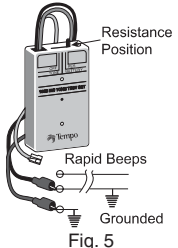

Fig. 5
- Connect the 100B Test Set as shown in Figure 5.